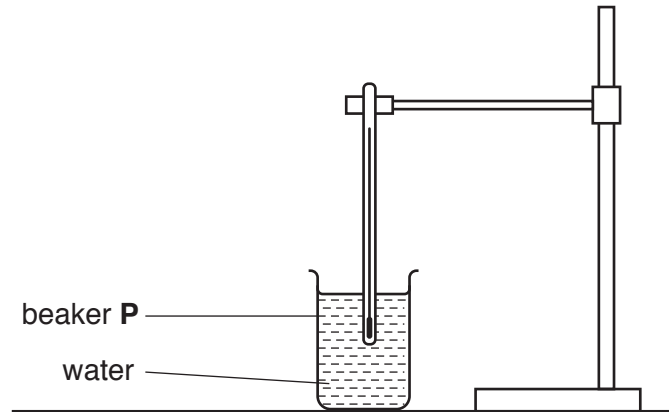

Fig. 2.1
- (b) Use the measuring cylinder provided to pour  $200\text{ cm}^3$  of the hot water supplied into beaker **P**. Place the thermometer in the hot water, as shown in Fig. 2.1.